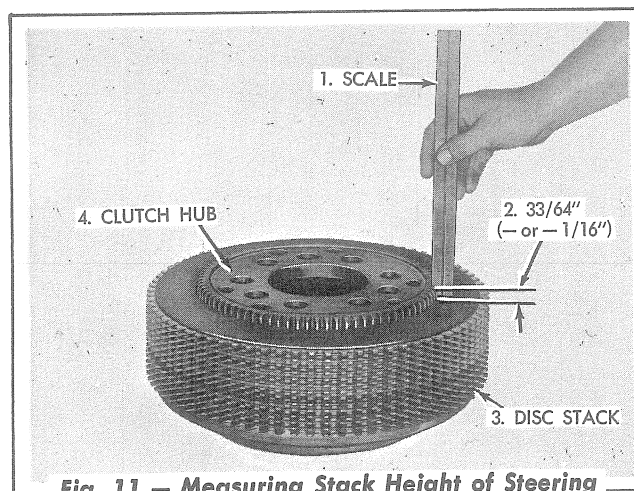

Fig. 11 — Measuring Stack Height of Steering Clutch Discs
3. Measure the distance from the top steel disc to the top of the clutch hub as shown in Fig. 11. If this distance is more than $\frac{37}{64}$ ", add another steel disc to the top of